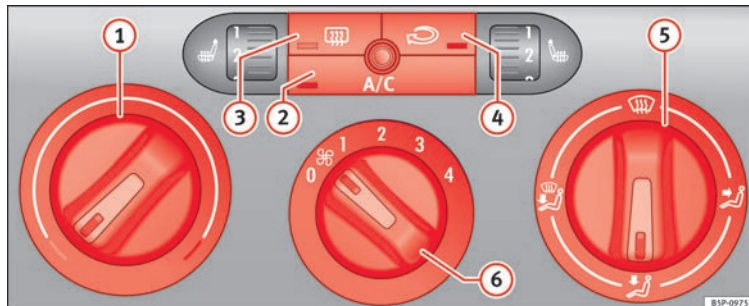

Fig. 115 On the dash panel: Climate controls.
- Use the knobs » Fig. 115 (1) and (5) and control (6) to set the temperature, air distribution and blower speed.
- To switch a function on or off, press the appropriate button (2), (3) or (4). When the function is activated, the display window in the lower corner of the button is lit.
- (1) Temperature selector » page 110
- (2) A/C button – Cooling system on/off » page 110
- (3) button – Heated rear window The heating will be switched off automatically approximately 20 minutes after switching on. It can also be switched off beforehand by pushing the button.
- (4) Button – Air recirculation mode » page 111
- (5) Air distribution control » page 110
- (6) Blower switch. There are four speed settings for the air flow. The air flow should always be set at the lowest speed when driving slowly.
- Switch on the air conditioner using the button » Fig. 115 A/C.